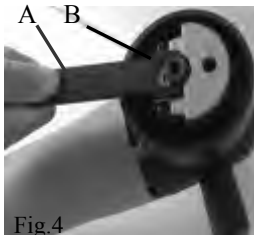

Fig.4
- 2 Position spindle wrench(A)Fig4.(furnished with polisher )to engage the flats on the spindle (B)Fig.4